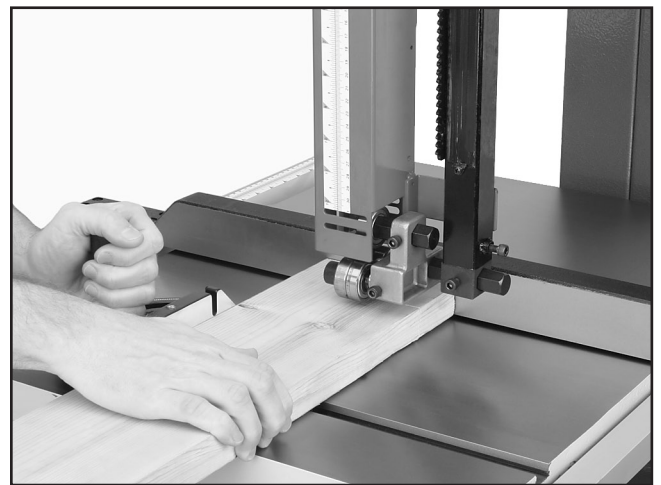

Figure 44. Crosscutting with miter gauge.
5. After all safety precautions have been met, turn the bandsaw **ON**. Slowly feed the workpiece into the blade and continue the cut until the blade is all the way through the workpiece. **Figure 44** shows a typical crosscutting operation.